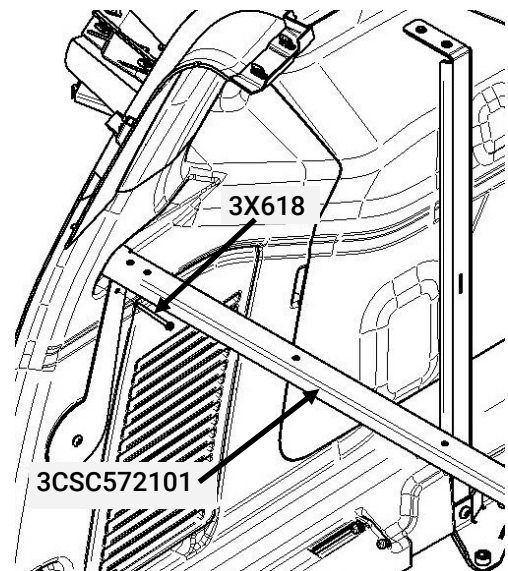

Figure 9
installed brackets. 3CSC572101 should be pressed forward against trim feature. Then drive the (2) #8 x 2" sheet metal screw [3X618] (Figure 9) into [3CSC572102] and [3CSC572103].